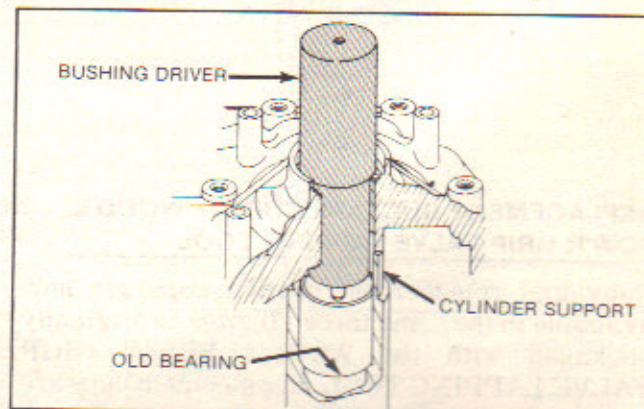

Figure 2 — Pressing Out Bearing
2. Insert #19226 bushing driver into damaged bearing. Press out bearing into recess of #19227 cylinder support, figure 2.